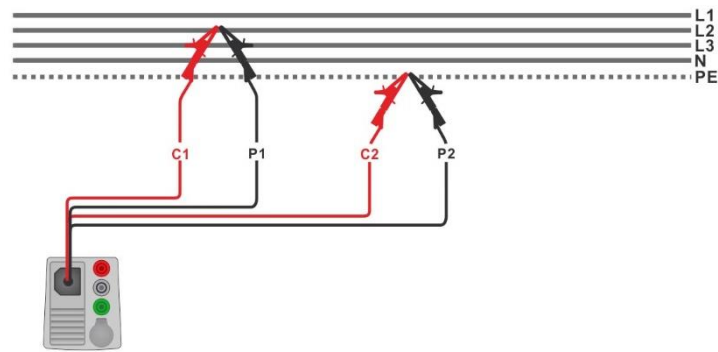

Figure 7.45: Connection of 4-wire test lead
- ▶ Connect 4-wire test lead to the object under test, C1, P1 terminals to phase and C2, P2 terminals to PE; see *Figure 7.45*.